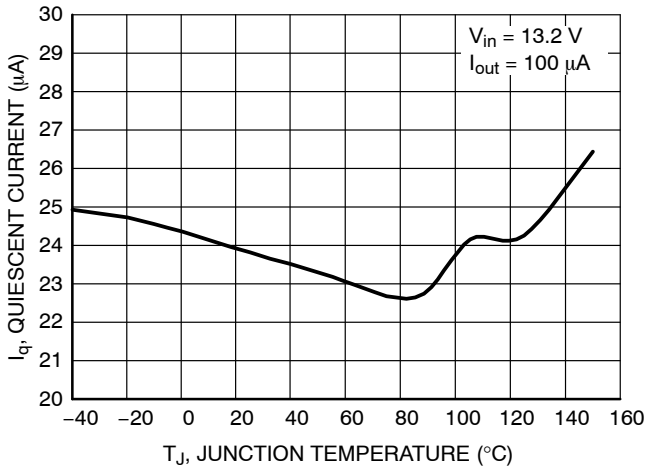
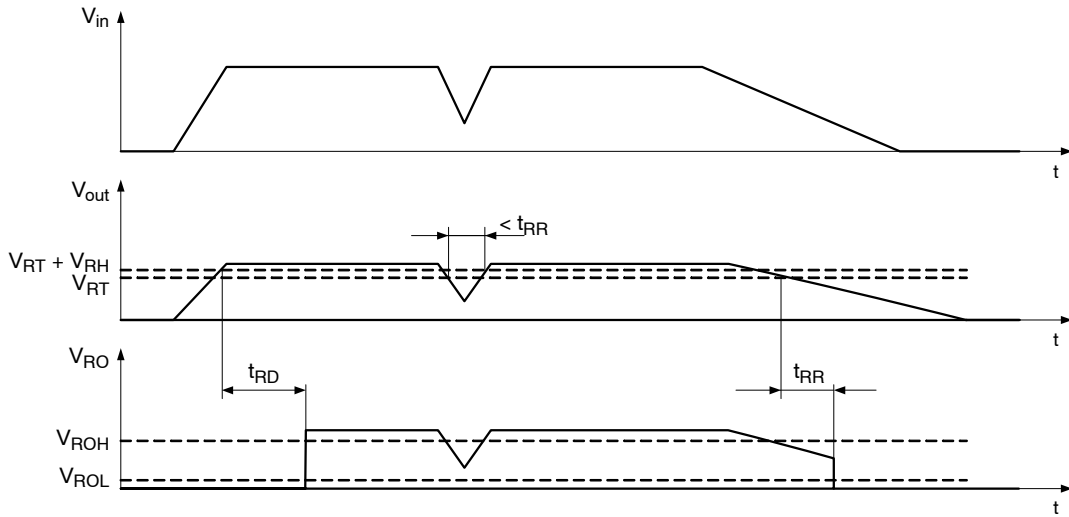

Figure 4. Quiescent Current vs. Temperature
Figure 24. Reset Function and Timing Diagram
The NCV8772 regulator is self-protected with internal thermal shutdown and internal current limit. Typical characteristics are shown in Figure 4 to Figure 24.
A reset signal is provided on the Reset Output (RO) pin to provide feedback to the microprocessor of an out of regulation condition. The timing diagram of reset function is shown in Figure 24. This is in the form of a logic signal on RO. Output voltage conditions below the RESET threshold cause RO to go low. The RO integrity is maintained down to V_{out} = 1.0 V. For 5 V voltage option, the Reset Output (RO) circuitry includes internal pull-up (30 kΩ) connected to the output (V_{out}) No external pull-up is necessary.